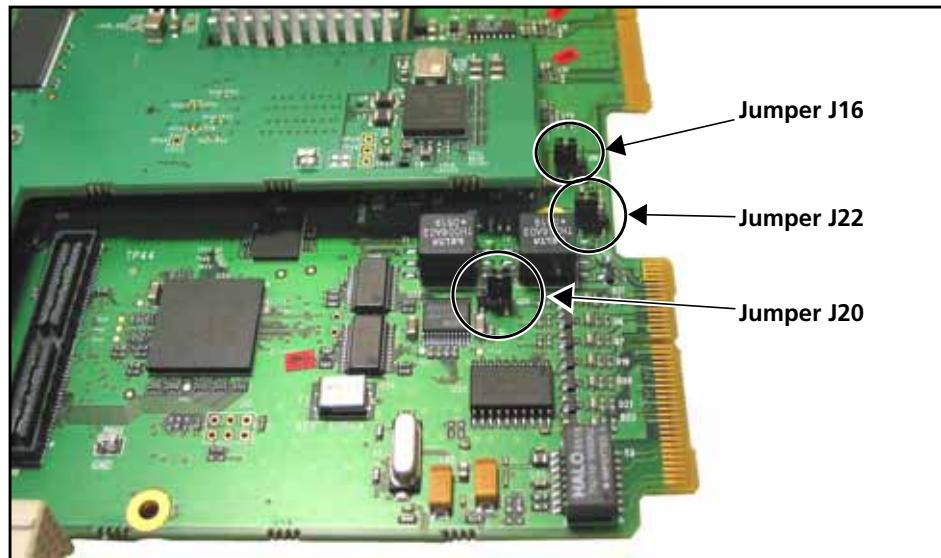

Figure 2-20 Jumpers for Reference Input and AES Audio-Over
- J16: Reference input termination (see **Figure 2-20** for the location)
- J20 and J22: AES Audio-Over 1 and 2 (see **Figure 2-20** for the location)